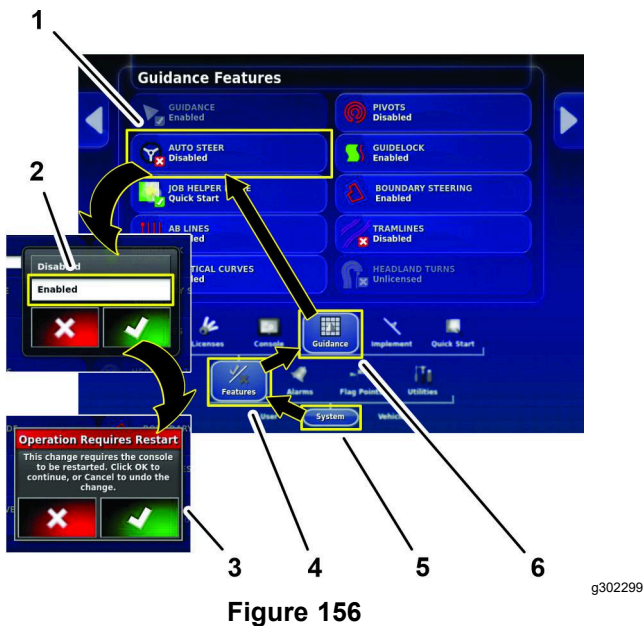

Figure 156
3. Press the SYSTEM icon, FEATURES icon, and the GUIDANCE icon (Figure 156).
4. Press the AUTO STEER icon (Figure 156).
5. In the dialog box, press the ENABLE icon, and press the confirm icon (Figure 156).
6. In the operation requires restart dialog box, press the confirm icon (Figure 156).